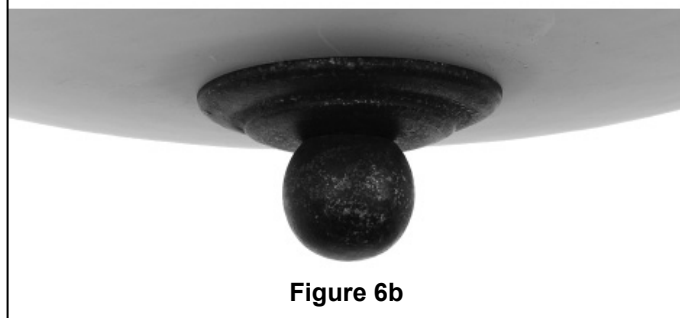

Figure 6b
7. Install the bowl cap and finial nut, do not over tighten. (Figure 6b)